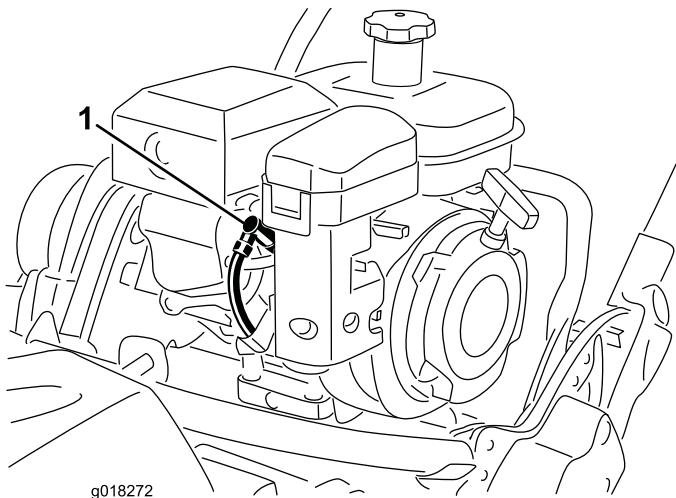

Figure 35
1. Pull the molded wire off the spark plug (Figure 35).